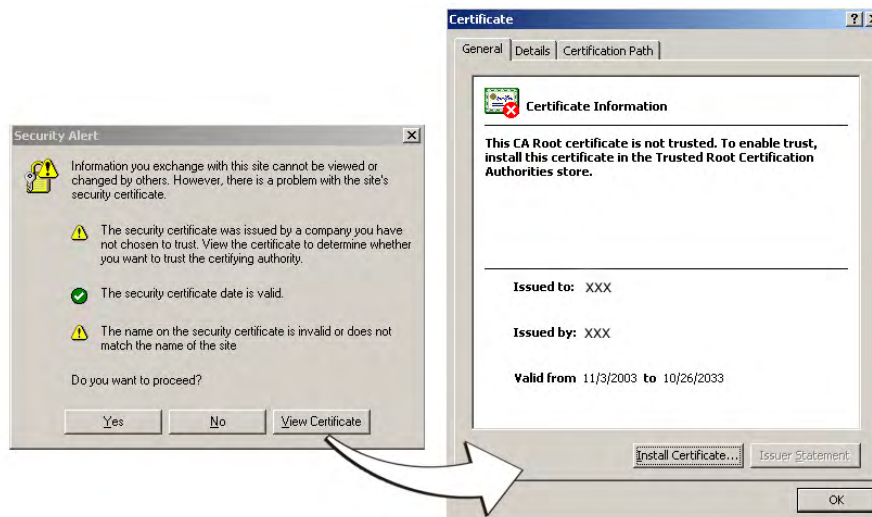

FIG. 56 Security Alert and Certificate popups
3. The user is then presented with a Security Alert popup window and Certificate information (FIG. 56).
- The date period given to the certificate has expired. CA-approved certificates typically come with a 2 year window of validity. Self generated certificates come defaulted with a 30 year window of validity (see FIG. 56).